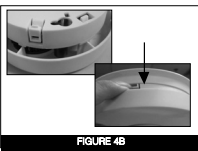

FIGURE 4B
- The tamper-resist tab will have to be released in order to remove alarm from mounting plate. Using a tool (small screwdriver) push the tab away from the mounting plate (Figure 4B) and rotate the alarm anti-clockwise in the "OFF" direction.